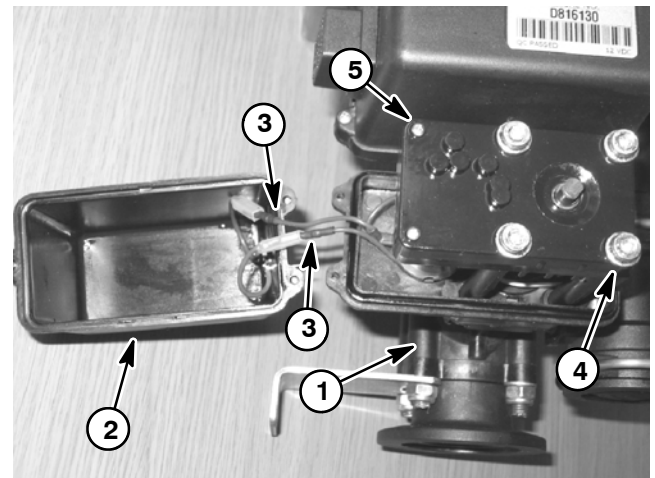

Figure 28.3
3. To remove valve motor cover from regulating valve motor (Fig. 28.3):
- Loosen three (3) screws that secure valve motor cover to valve motor assembly.
1. To install valve motor cover to regulating valve motor (Fig. 28.3):